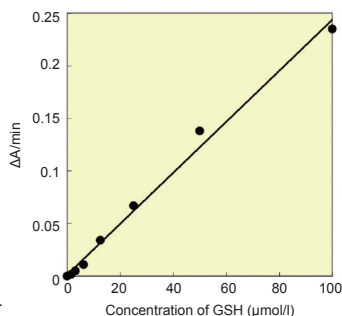

Fig. 4 Calibration curve prepared using kinetic method.
*Typical calibration curves prepared using the kinetic method and the pseudo-end point method are indicated in Fig. 4 and 5, respectively.